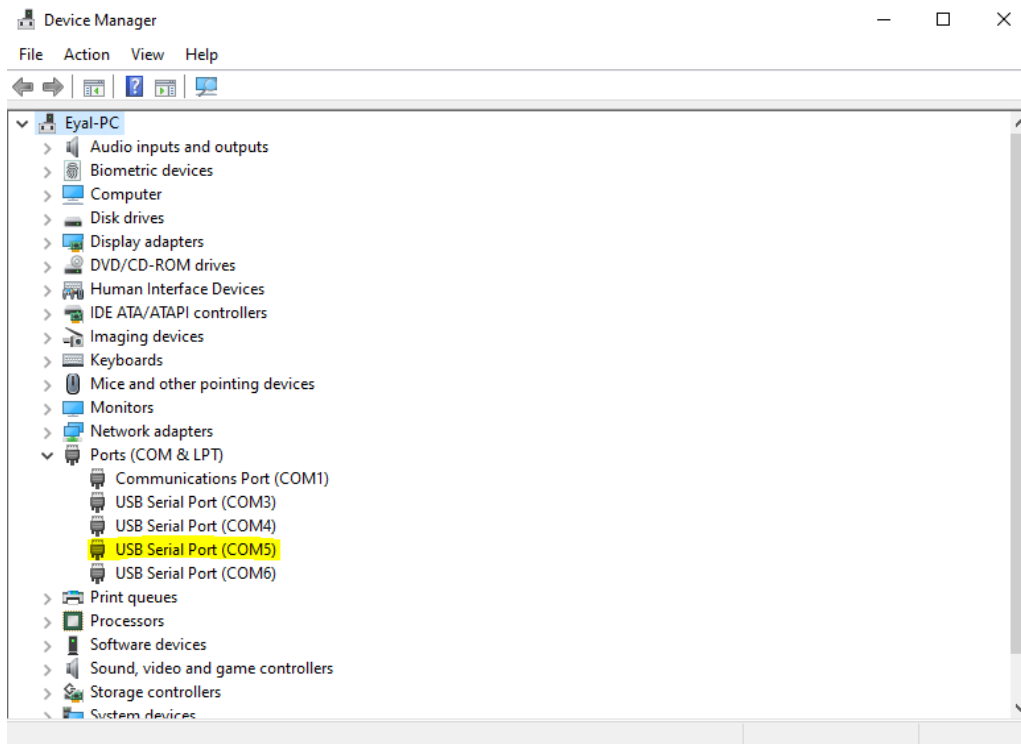

Figure 8: Locating the third COM port in the device manager
13. Click on "Session" in the category list in PuTTY and then select the "Serial" bubble. Keep "Speed" at 9600. Under "Serial line" type in the third COM port that appeared in the device manager. In this case, the third COM port is COM5. Then click "Open" (Figures 8 and 9).